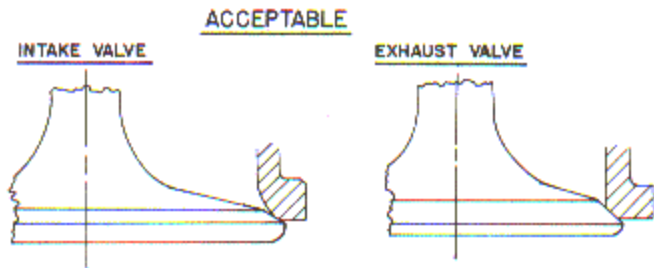

Figure 6-6. Acceptable Valve Contact with Seal Face
3. In figure 6-20 of basic O-540 overhaul manual substitute dimensions .093/.074 for dimensions .117/.076 for intake valve seat. Figure 6-6.